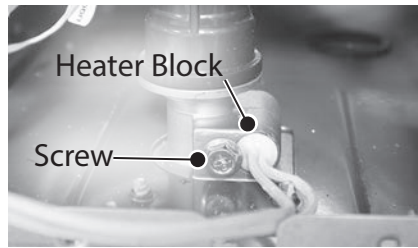

Figure 170 - Heater block location
- 17** Locate the screw securing the heater block in the base of the inlet assembly. See Figure 170. Use a Phillips screwdriver to remove the screw. Place the screw aside in a safe place for reinstallation.